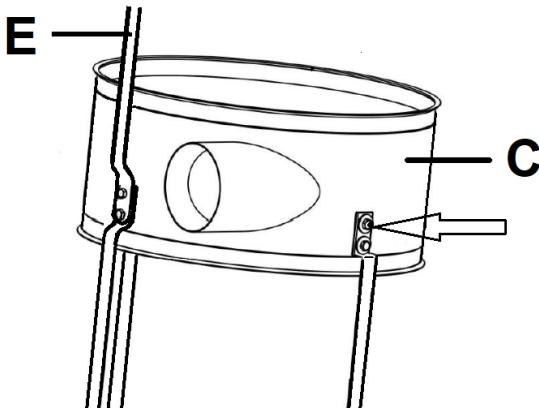

Fig 8
Install the housing (C, Fig 8) with 6 hex cap screws.
Attach the filter bag hanger (E)...see Fig 8.